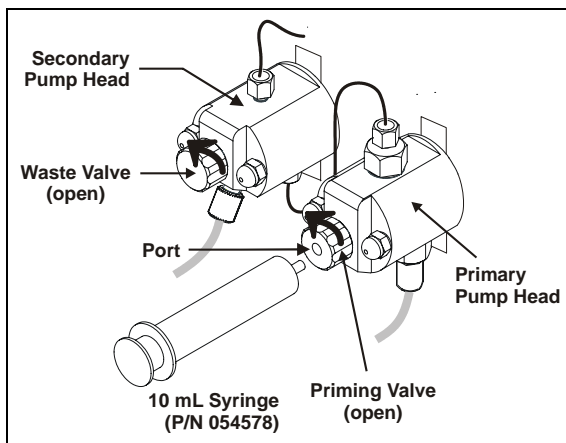

Figure 5-29. Priming the Pump Heads with IPA
1. Connect a 10-mL syringe (P/N 054578) filled with isopropyl alcohol (IPA) to the port in the primary pump head (see Figure 5-29).
2. Open the waste valve on the secondary pump head (see Figure 5-29) by turning the knob one-quarter to one-half turn counterclockwise.